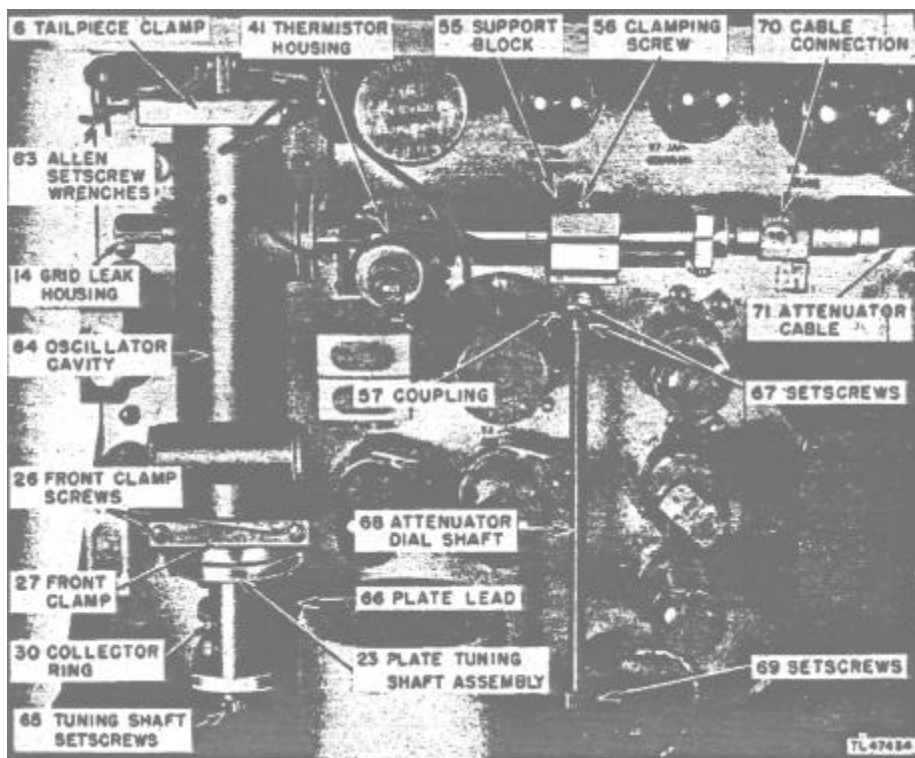

Figure 37. Oscillator assembly mounted on sign generator chassis.
44.5. DISASSEMBLY OF CAVITY (figs. 37 to 41).
(2) If the cavity is defective, it should be returned to the factory. Emergence conditions, however, may necessitate repairs at a repair base. The following instructions are therefore supplied. These instructions apply to the "PR" type cavity. Refer to paragraph 43a for the structural differences between the "PR" and the "AO" type cavities.
(3) Read paragraphs 31 and 32 for a description of the cavity and associated parts. Refer to figures 37 through 41 for removal of the oscillator cavity and associated assemblies.
(4) The following is a key to figures 37 to 41, inclusive: